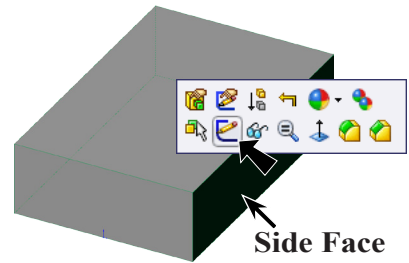

Fig. 5
Step 1. Click the **side face** and click **Sketch**  on the Content toolbar, **Fig. 5**.